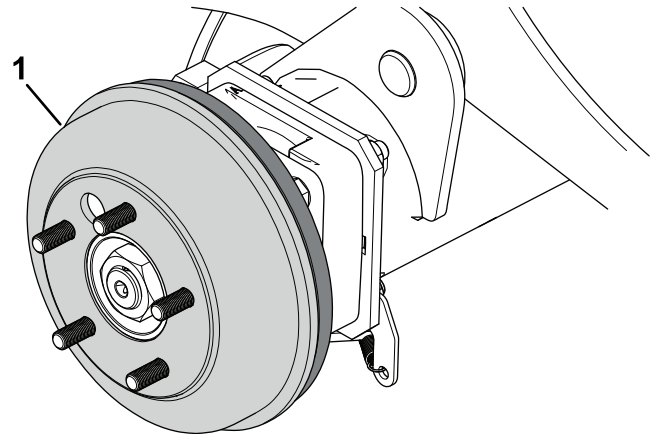

Figure 71
4. Remove the brake drums (Figure 71) by hand.